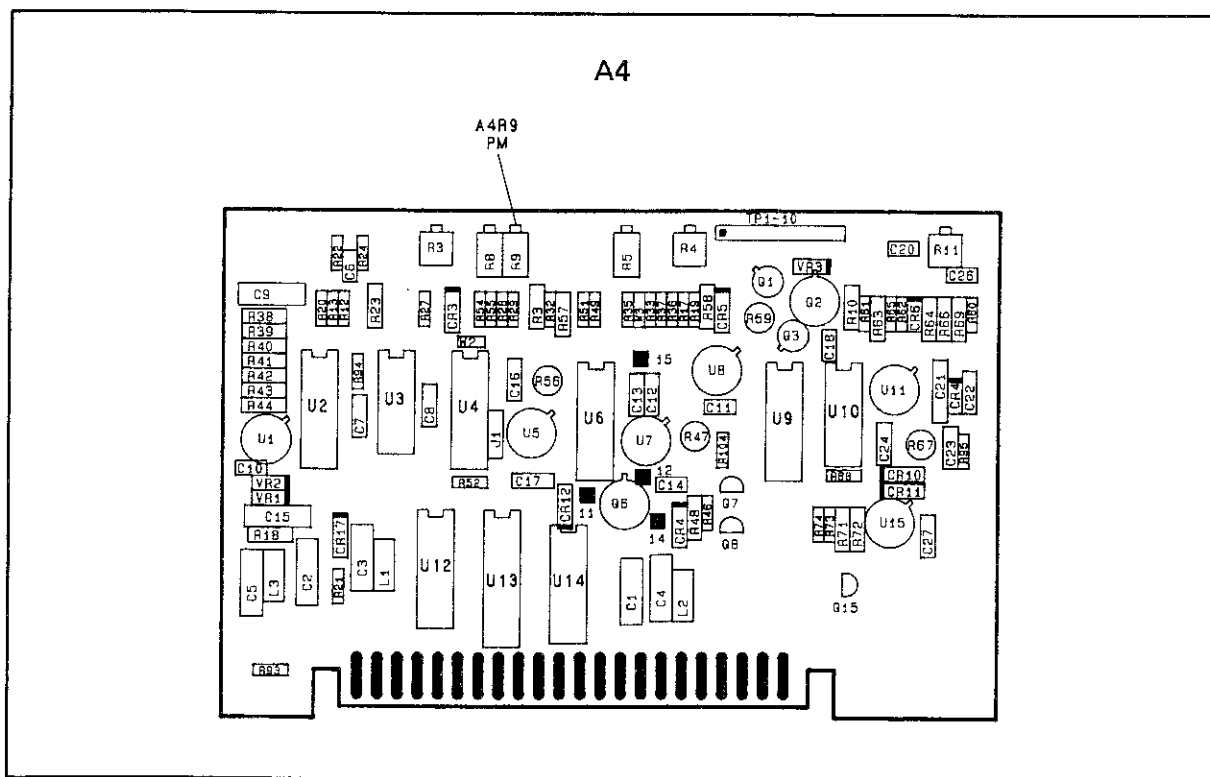

Figure 5-21. Power Meter Leveling Adjustment Location
3. Press 8350A/B [POWER LEVEL] [STEP SIZE] [1] [dB] and use [▲] to increase the HP 83572A/B POWER LEVEL by exactly 5.0 dB. Adjust A4R9 "PM" (Figure 5-21) for a power meter reading of -10 . The HP 83572A/B front panel power indication should read $+0$ dBm.